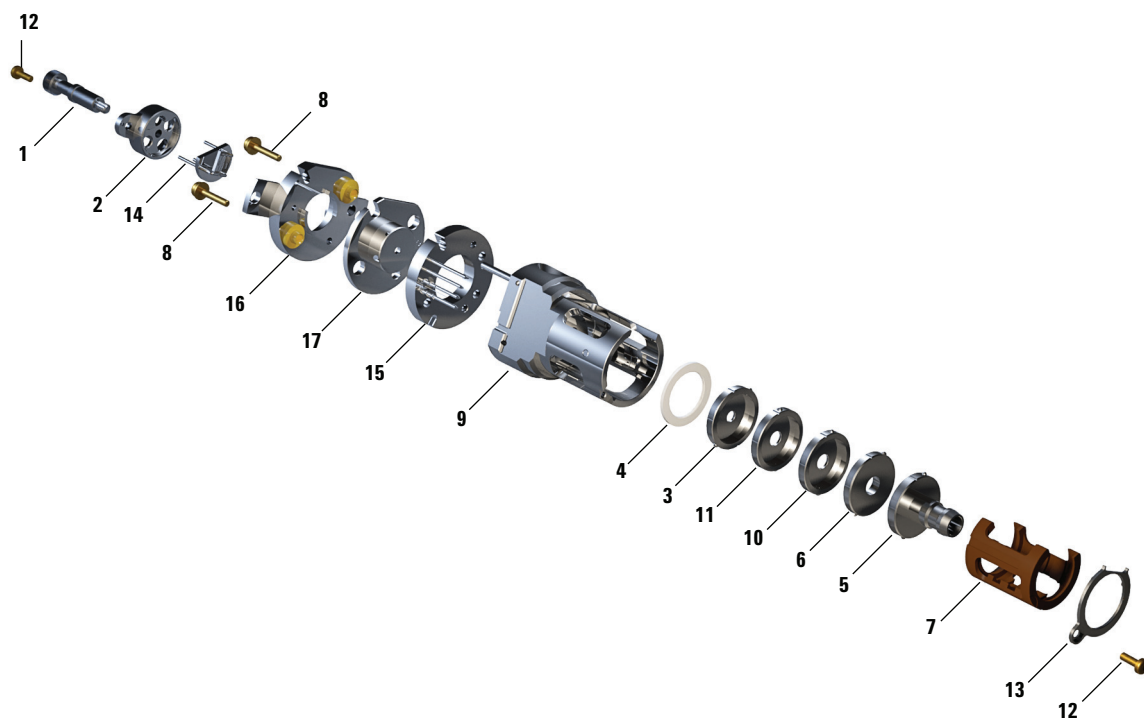
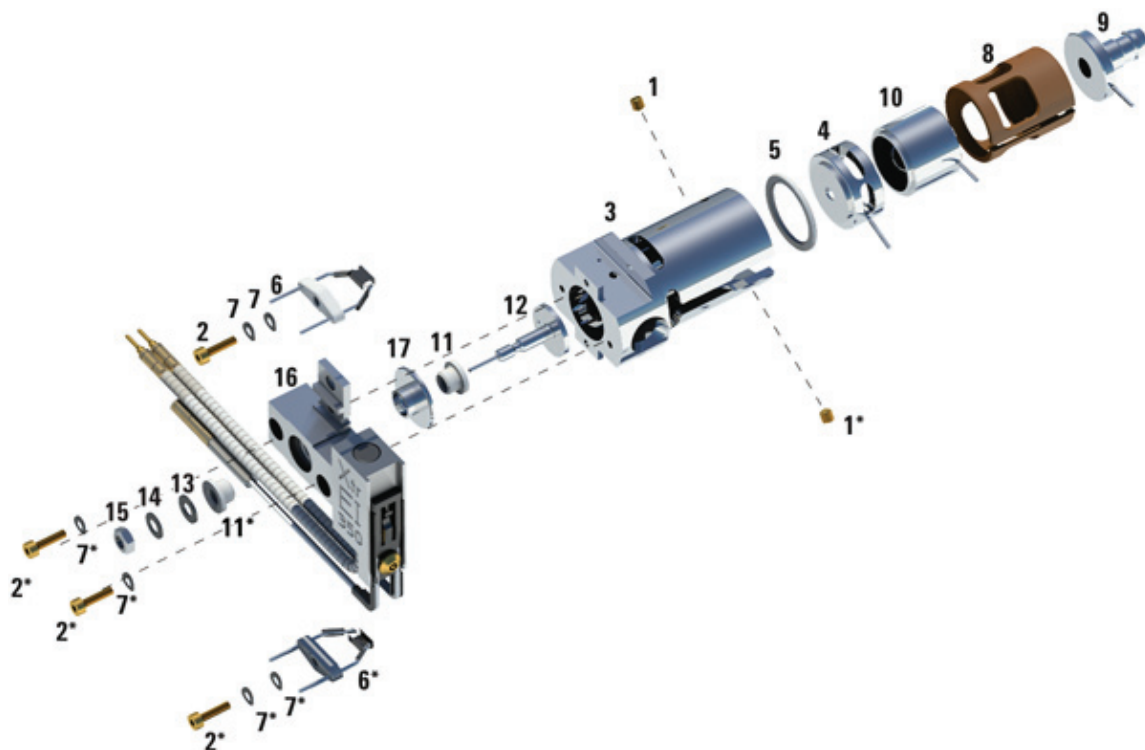

Figure 32. Exploded parts view of the EI HES
Figure 33. EI XTR source structure
The EI HES and the EI XTR ion source operate by electron impact ionization. (See **Figure 32** on page 153 and **Figure 33** on page 155.) The sample enters the ion source from the GC/MS interface. Electrons emitted by a filament enter the ionization chamber, guided by a magnetic field. The high-energy electrons interact with the sample molecules, ionizing and fragmenting them. The positive voltage on the repeller pushes the positive ions into the lens stack, where they pass through several electrostatic lenses. These lenses concentrate the ions into a tight beam, which is directed into the mass filter.
The HES body (9) is a cylinder. (See **Figure 32** on page 153.) It holds the other parts of the source, including the lens stack (items 3, 11, 10, 6, and 5). The repeller (item 17), source mount (item 16), and filament block (item 2) form the ionization chamber. The ionization chamber is the space where the ions are formed. Slots in the source body help the vacuum system to pump away carrier gas and un-ionized sample molecules or fragments.
The EI XTR source body is a cylinder. (See **Figure 33** on page 155.) It holds the other parts of the source, including the lens stack. With the repeller, it forms the ionization chamber. The ionization chamber is the space where the ions are formed. Slots in the source body help the vacuum system pump away carrier gas and unionized sample molecules or fragments. The CI source is similar in design to the EI XTR source, but critical dimensions are different. Do not interchange parts.
Table 7 Parts list for EI HES (Figure 32)
Table 7 Parts list for EI HES (Figure 32) (continued)
Table 8 Parts list for EI XTR source (Figure 33)
Table 8 Parts list for EI XTR source (Figure 33) (continued)
For the HES, two filaments are located on a single assembly located on the center of the EI HES. (See item 14 in **Figure 32** on page 153.) For the EI XTR source, two filaments are located on opposite sides of the source body. (See item 6 in **Figure 33** on page 155.) The *active* filament carries an adjustable AC emission current. The emission current heats the filament causing it to emit electrons which ionize the sample molecules. In addition, *both* filaments have an adjustable DC bias voltage. The bias voltage determines the energy on the electrons, usually -70 eV.
The extractor lens is a part of the EI source. (See Figure 32 on page 153.) This lens replaces the drawout plate and cylinder on a CI source, but performs a similar function. A voltage is applied to the extractor lens to increase focusing in the EI source.
The voltage on post extractor 1 (Lens 4) and post extractor 2 (Lens 3) can be varied. (See Figure 32 on page 153.) A typical voltage for Lens 4 is between -5 and -15 VDC. A typical voltage for Lens 3 is between -20 to -32 VDC.
The voltage on the ion focus lens can be varied from 0 to -127 VDC. (See Figure 32 on page 153.) A typical voltage VDC is between -70 and -90 VDC. In general:
The entrance lens is at the entrance to the Quad. (See Figure 32 on page 153.) This lens minimizes the fringing fields of the quadrupole which discriminate against high-mass ions.
The extractor lens is a part of the EI source. (See Figure 33 on page 155.) This lens replaces the drawout plate and cylinder on a CI source, performing a similar function, but is not interchangeable with the drawout plate and cylinder. A voltage is applied to the extractor lens to increase focusing in the EI source.